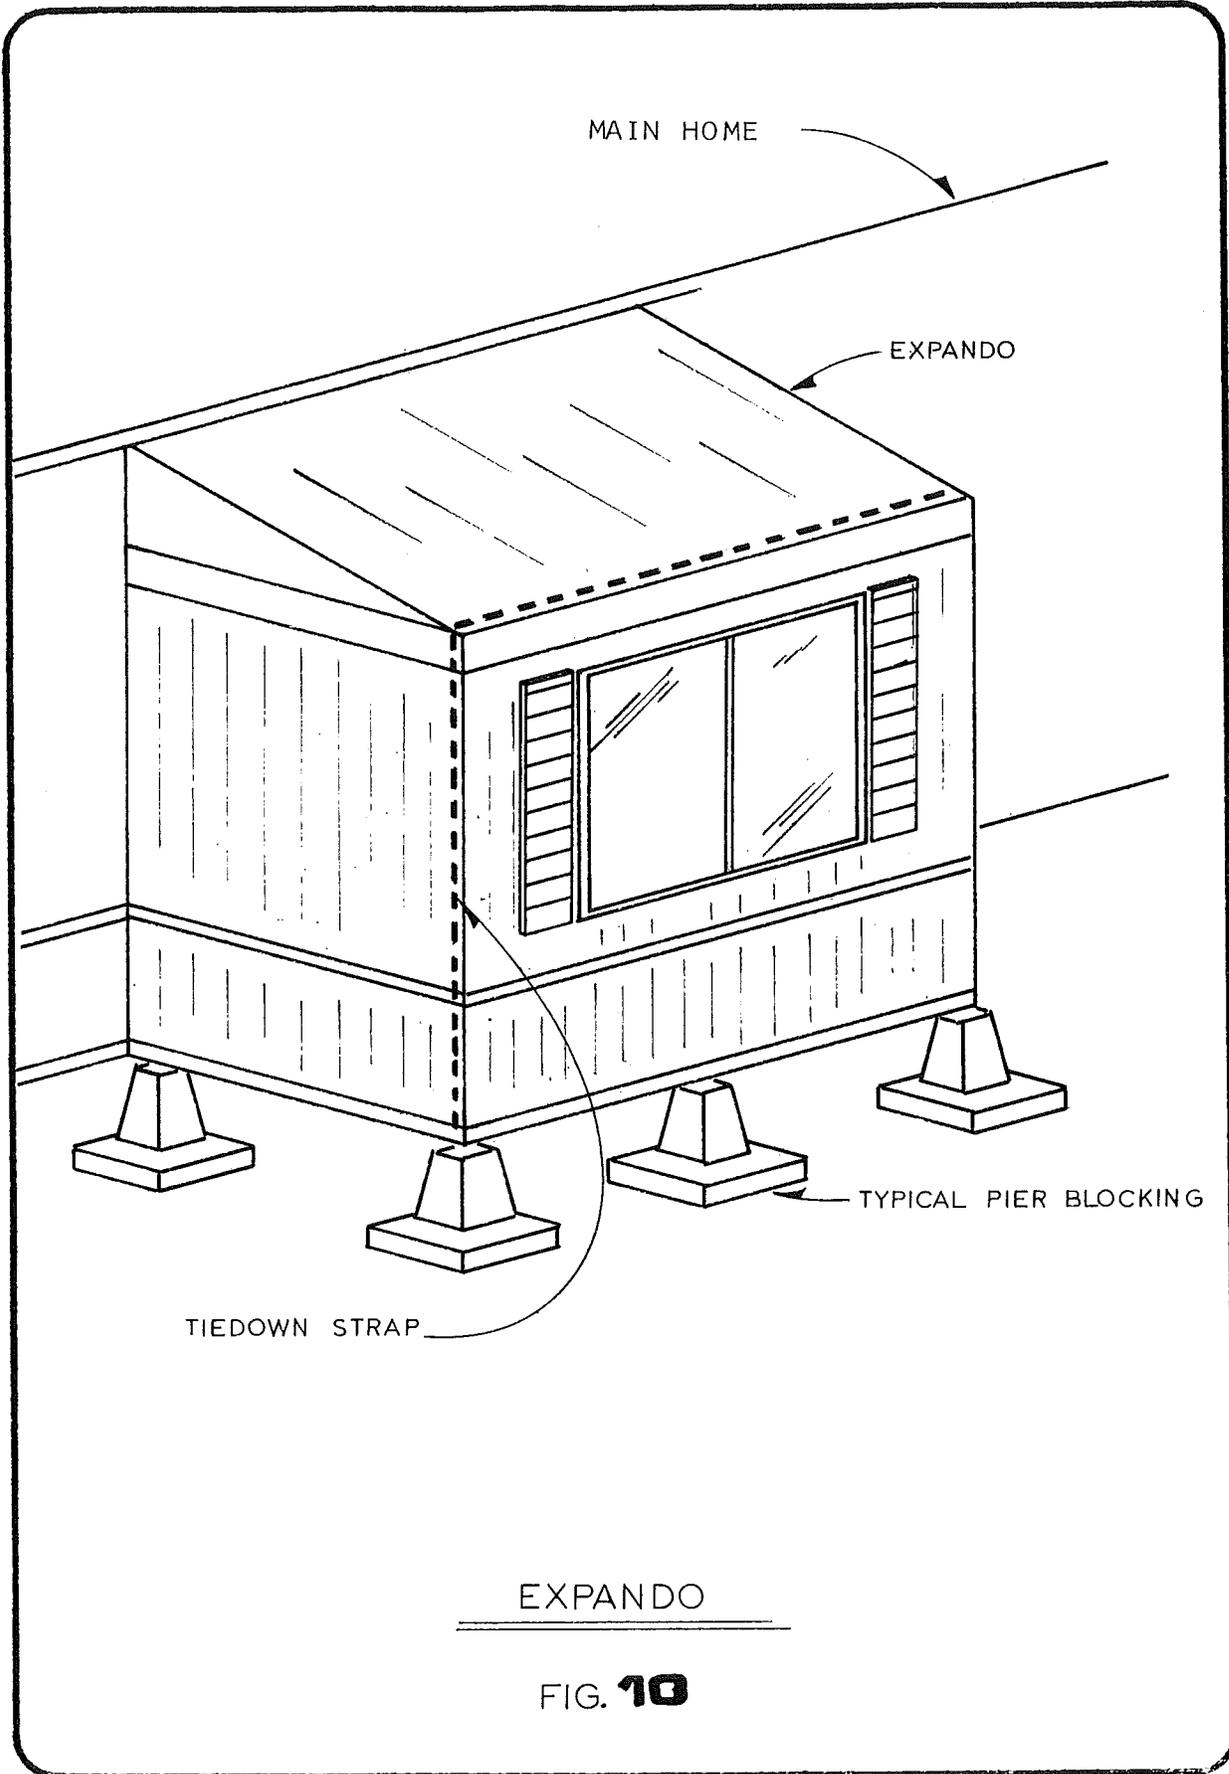

FIG. 10
11. The expando must be anchored to the ground using the straps provided. (See Figure 10)